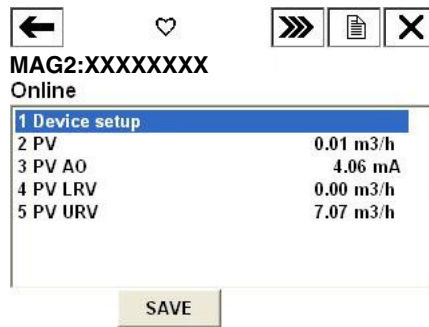

Figure 62. Online Menu
Once the setting and wiring connections are correct, the HART Communicator's display shows an online menu as shown in Figure 62 and a HART mark flickers in the upper right hand corner of the display.
If the display is not as shown in Figure 62 but as shown in Figure 63 below, no communications are being made. Recheck the HART Communicator connections and the transmitter settings.
1. Select “1. Device setup” from online menu 1 (Figure 62). The device setup menu is then displayed. (Figure 64)